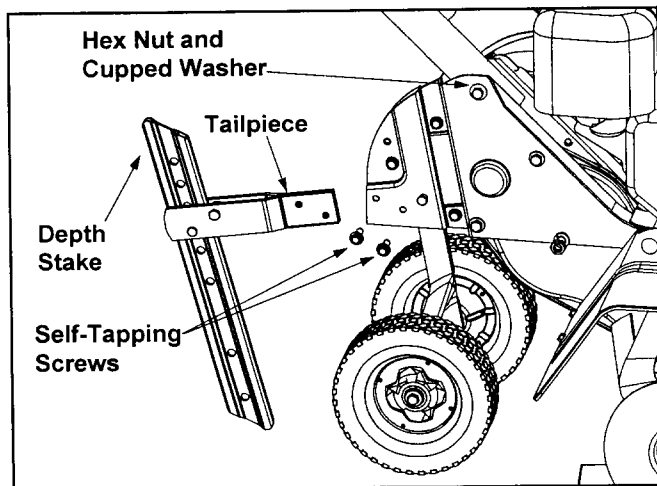

Figure 3
Remove the two self-tapping screws on the frame. Slide the tailpiece into the frame, with the lower hole in the tailpiece toward the front. Secure with screws just removed. (See Figure 3.)
1. Remove the hex bolt and cupped washer from the top right side of the frame halves. Hold the cable guide bracket on the left side of the frame as it will fall when the bolt is removed. (See Figure 3.)